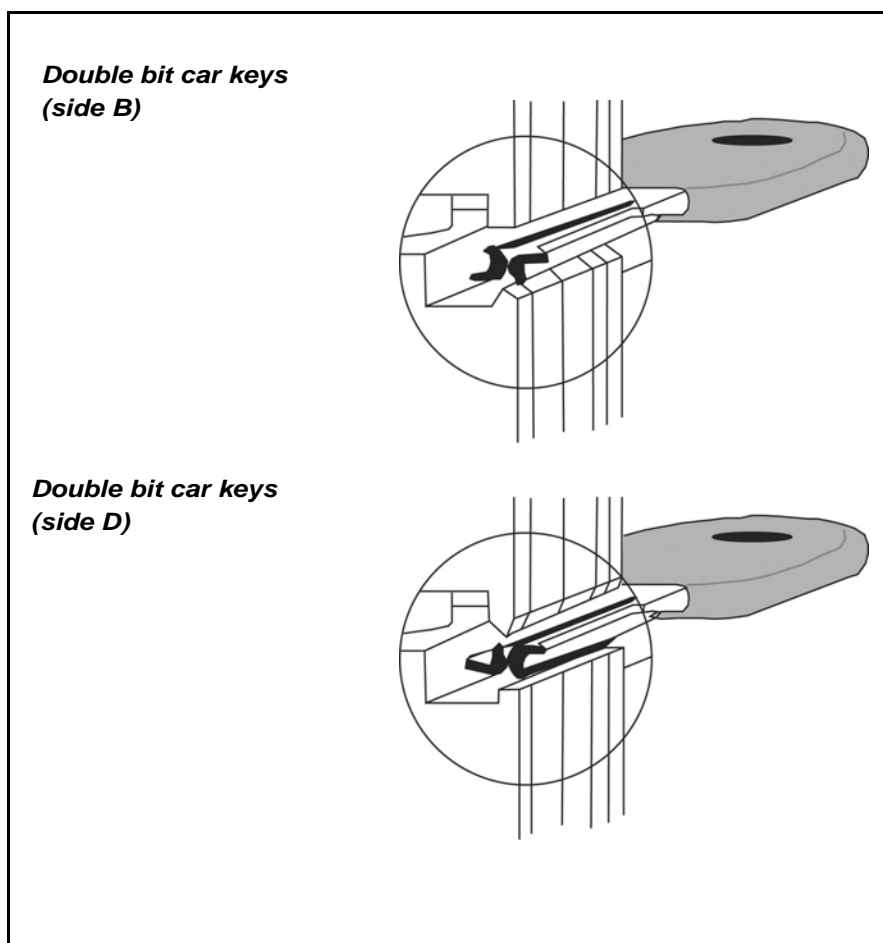

Figure 11: Double bit car keys
2. Insert the key sample into the left jaw and lock it by means of lever. The position of the key sample must be such that the jaw wedge can get into one of the two key mills (as shown in figure 11);